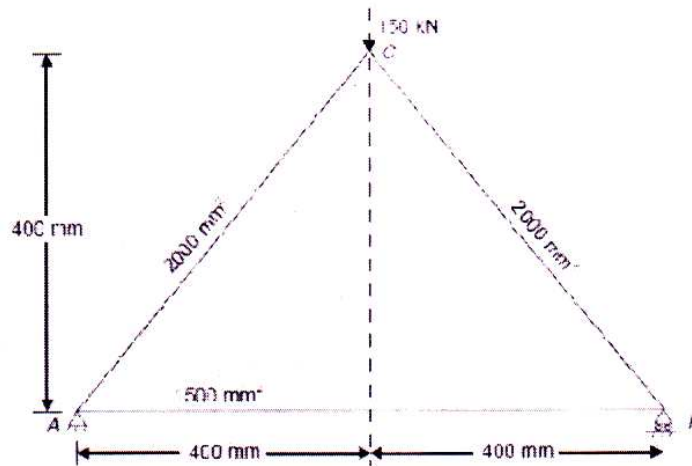

Figure 3
- b)** For the three - bar truss shown in Fig. 3, determine the nodal displacements and the stress in each member. Find the support reactions also. Take modulus of elasticity as 200 GPa. [9]